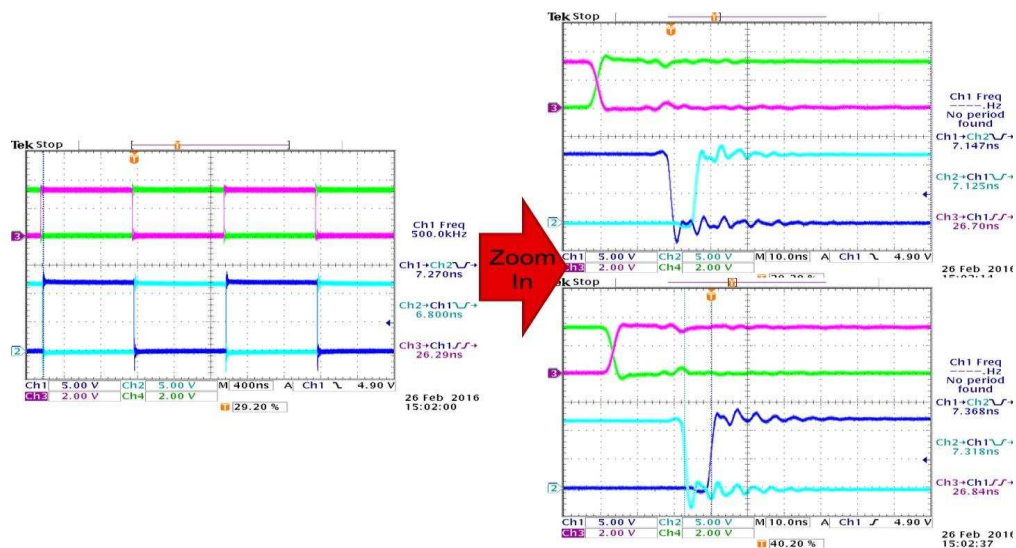

Figure 5. Test Waveforms if DT is Left Open (Channel 3 and 4 are PWM Inputs, and Channel 1 and 2 are Driver Outputs)
The dead time (DT) between the outputs of the two channels is around 8 ns, which is preset for interlock protections (see Figure 5).